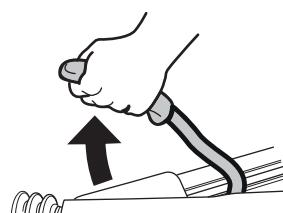

Fig. 8
- Apply the parking brake and/or secure the tyres with wedges (Fig. 8).